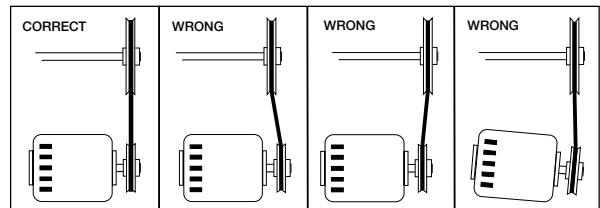

Fig. 11
5. Check the pulleys for proper alignment. Misaligned pulleys lead to excessive belt wear, vibration, noise, and power loss. (See Fig. 11).